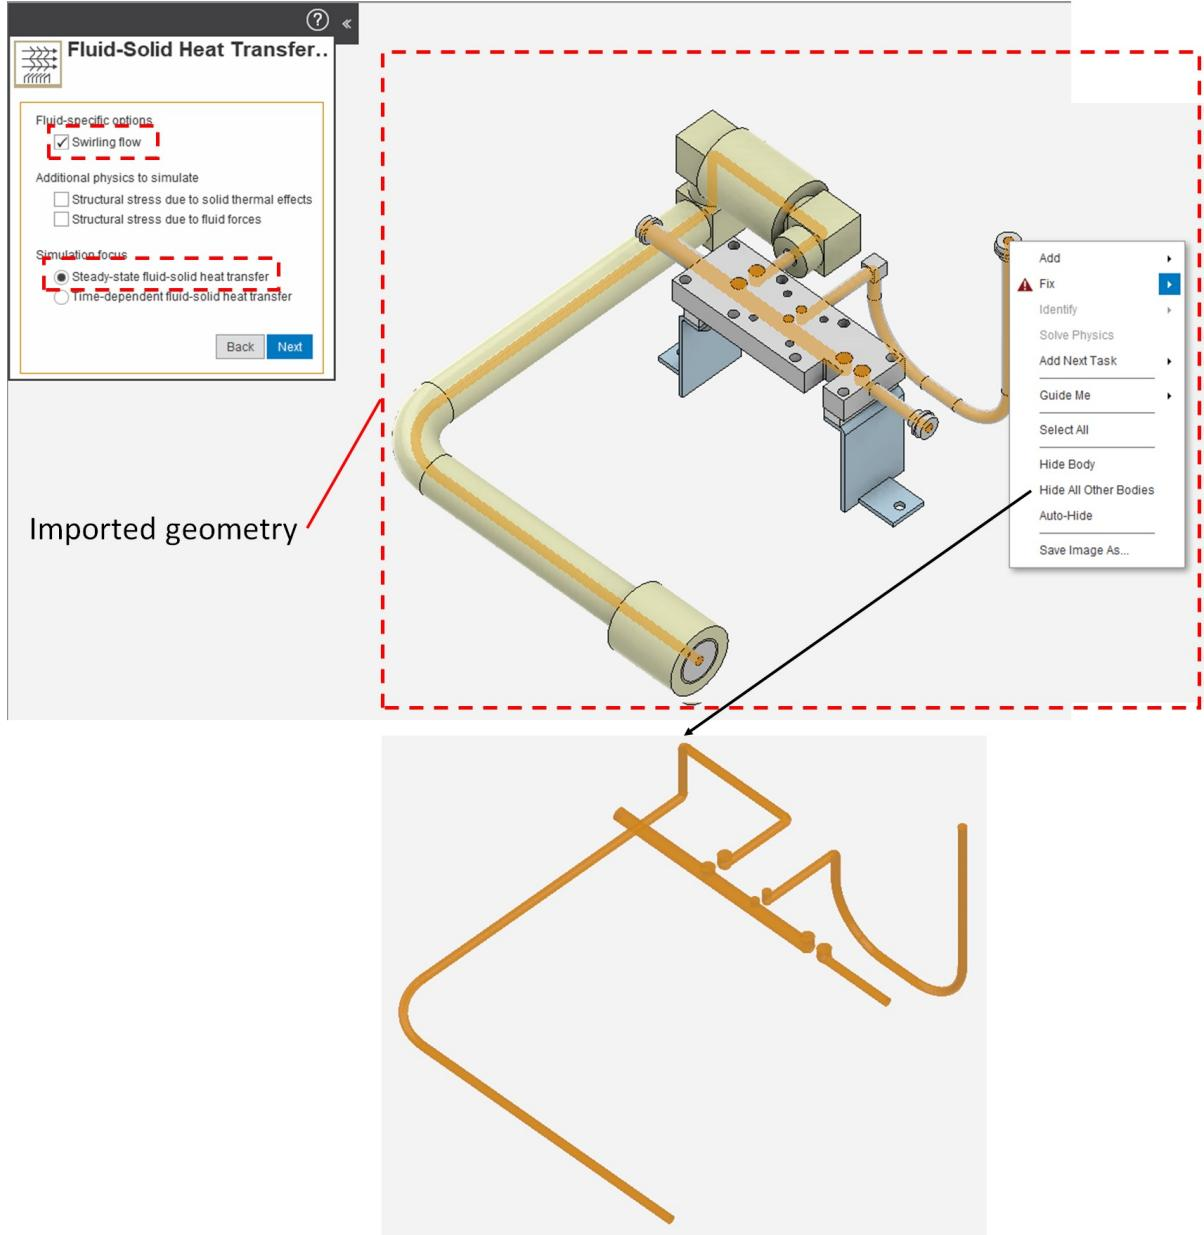
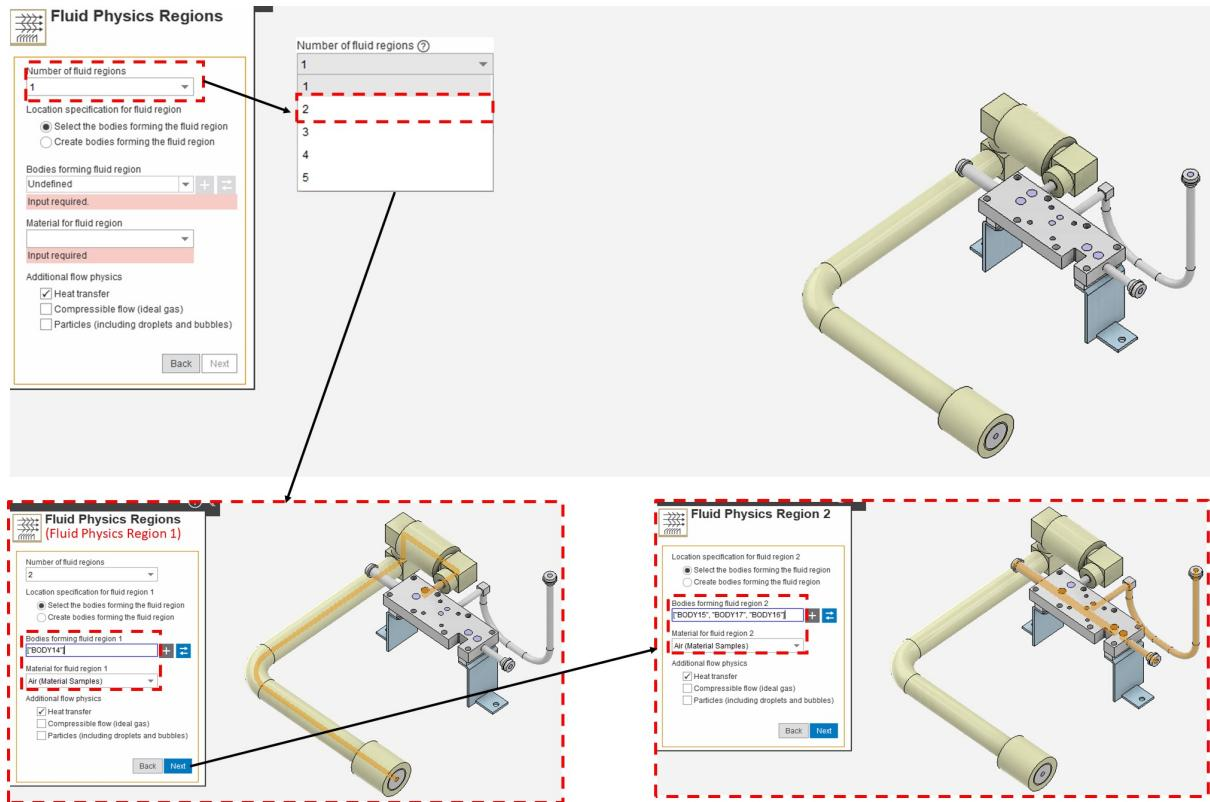

Figure 2.3:
Figure 2.4:
3. Once the model is imported you will begin the set-up wizard using the prompts in the top left of the screen, as shown in Fig. 2.3. The **Swirling flow** needs to be checked to handle
4. Next you will be prompted to select the number of Fluid regions in your model and define what material those regions are. Using the imported geometry, shown in Fig. 2.3, as an example there are 2 fluid regions of Air. As shown in Fig. 2.4, first select the volume(s) that represent **Fluid Physics Region 1** and assign it the Material of Air. (You may click fluid volume(s) simultaneously and select “Hide All Other Bodies”, as shown in Fig. 2.3, to get to your fluid(s)). You can show the other components afterward by right clicking in the white space and selecting “show all”) Repeat this process to define you **Fluid Physics Region 2**. (Note: You can type into the box to see if a Material exists in the Ansys Library or select “Other” for a custom material you can set up the properties for later).